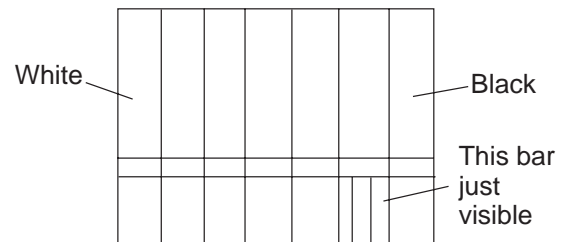

Fig. 8
1. Enter the Service mode. Then input IQW signal from Component AV Input (2) video.
4. Press "CH ▲ / ▼" buttons so that the bar is just visible. (Refer to Fig. 8.)
5. Input IQW signal from Composite AV Input (1) video jack (Video 1).